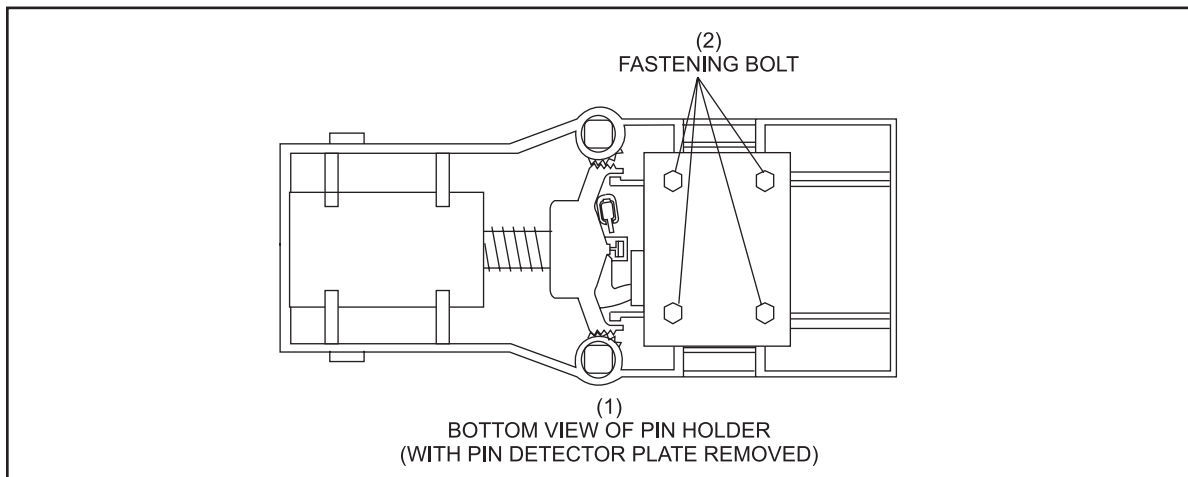

Figure 5-38. Pin Holder Fastening Bolts
1. To adjust individual pins left or right, loosen the four pin holder fastening bolts. See *Figure 5-38*.